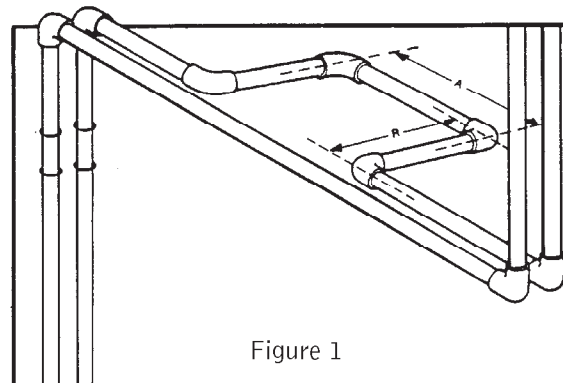

Figure 1
1. Expansion loops which consist of pipe and 90° elbows (See Figure 1)